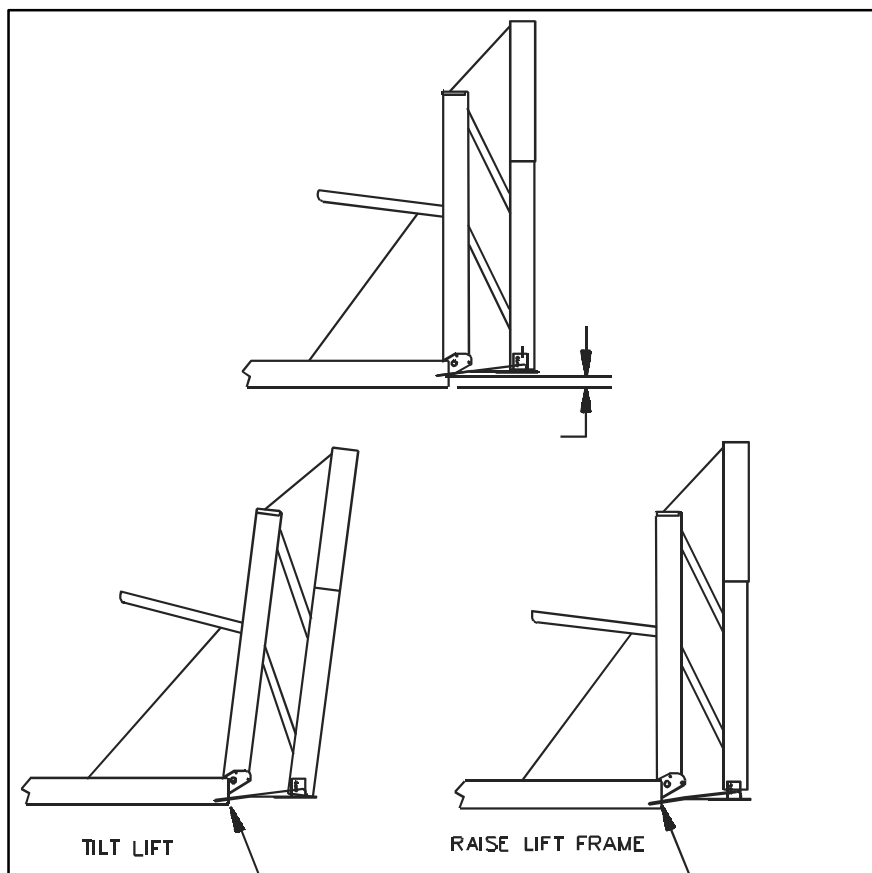

FIGURE 2-16: BRIDGEPLATE/PLATFORM GAP
- b. Refer to **Figure 2-16**. Observe point where Bridgeplate contacts platform top surface.